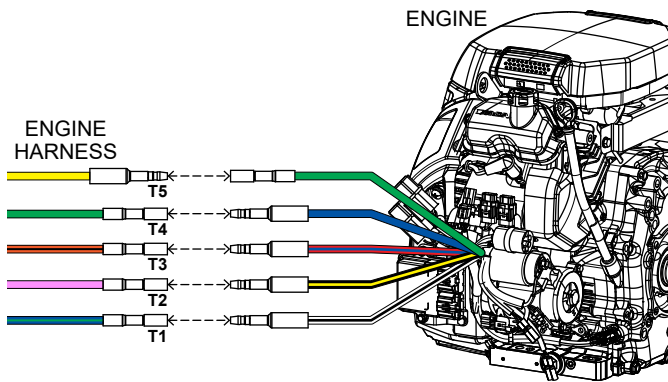
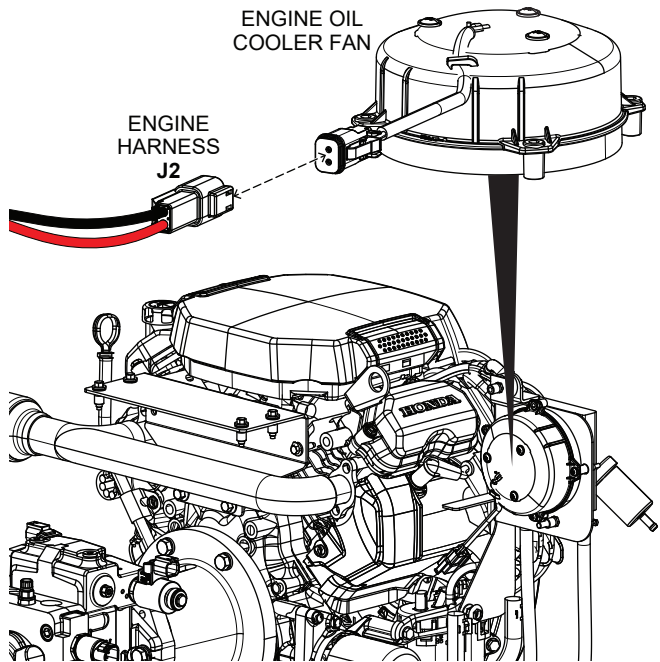
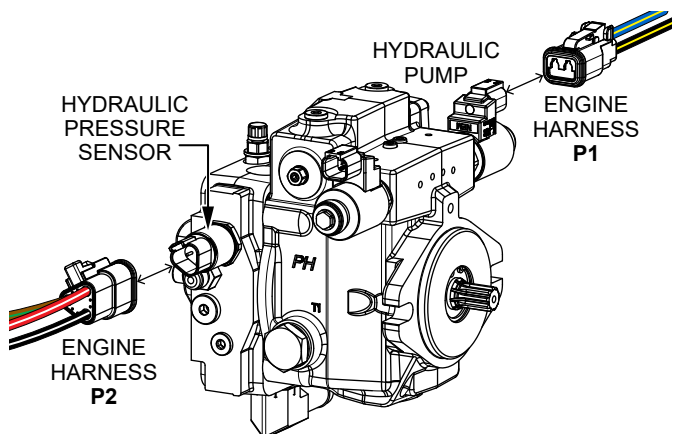

Figure 2. Disconnect Engine Harness From Engine
Figure 3. Disconnect Engine Harness From Engine Oil Cooler Fan
Figure 4. Disconnect Engine Harness From Hydraulic Pump And Pressure Sensor
1. Disconnect and remove the **existing engine harness** from the **engine** (Figure 2), **engine oil cooler fan** (Figure 3), **hydraulic pump and pressure sensor** (Figure 4), and **main harness** (Figure 5).